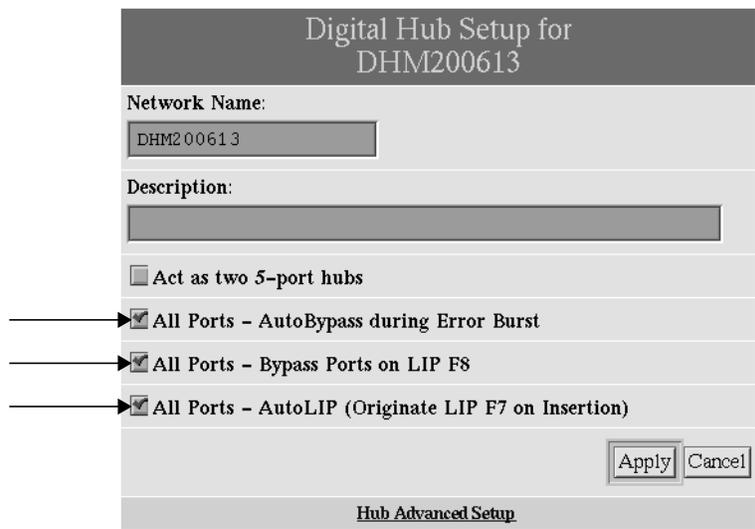

Figure 5-8 Bypassing Ports
1. In the Hub Port Status screen, click Setup, and then click Hub Setup. Figure 5-8 shows the Digital Hub Setup screen.
To use the Internet browser interface for LIP F8 or AutoLIP bypass, click Setup in the menu bar, and then click Hub Setup; see Figure 5-8. In this screen, click check boxes as follows: